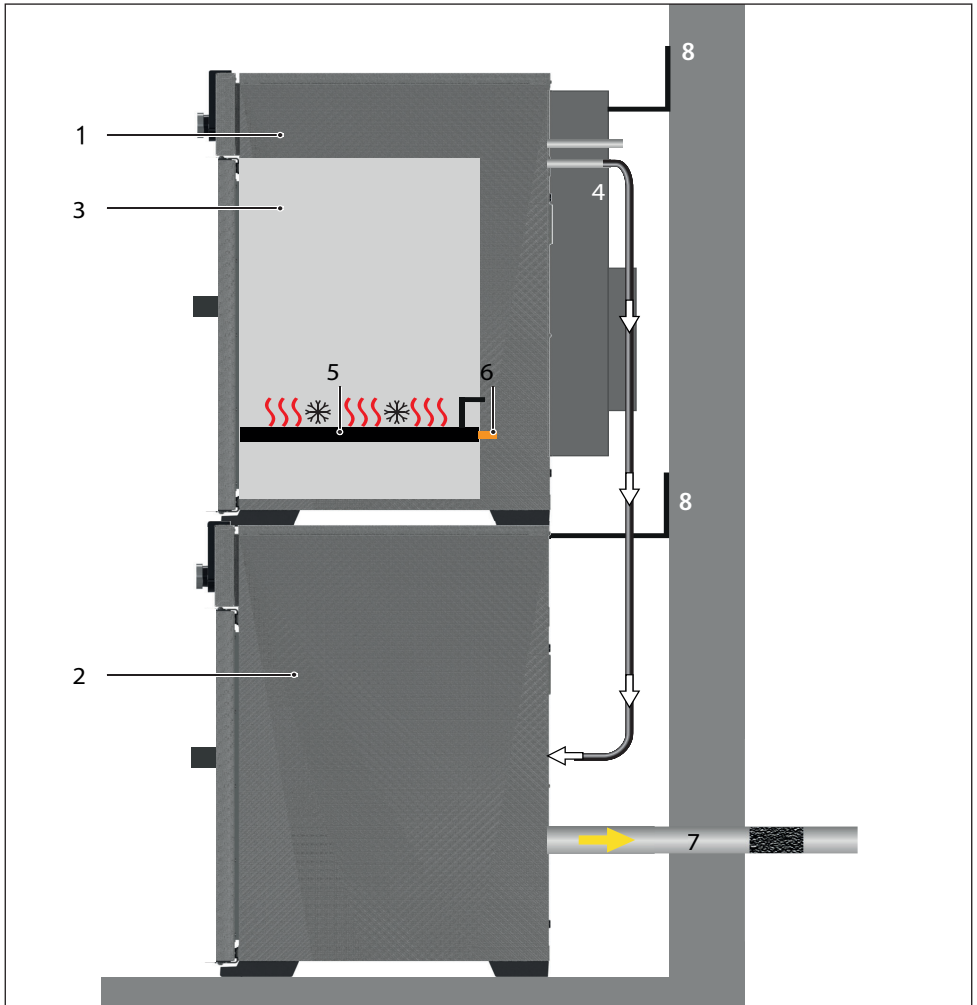

Fig. 4 Function of vacuum ovens VOcool in conjunction with a pump module
The devices of the VOcool series (Fig. 4 ①) can generate a vacuum in working chamber③ in conjunction with Memmert pump module ② or another suitable vacuum pump. The vacuum inlet on the back of appliance ④ evacuates the working chamber through the pump.